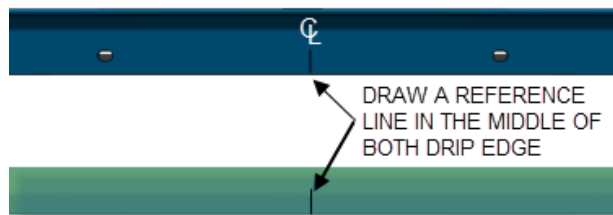

FIGURE 47
8. Draw a line to mark the center of both drip edge (FIGURE 47).